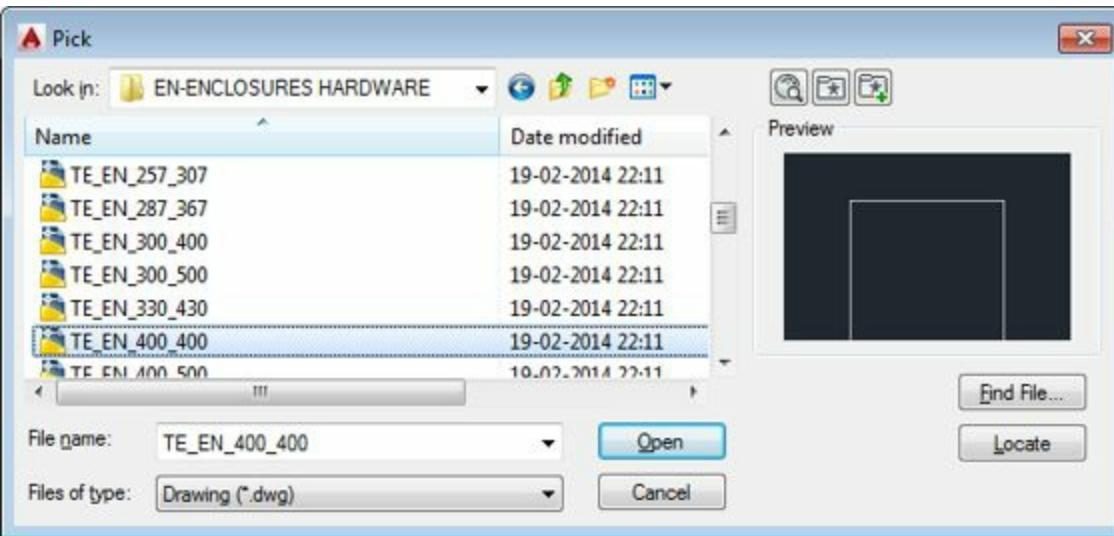

Figure-27. Pick dialog box
- Click on the **Browse** button from the **Footprint** dialog box. The **Pick** dialog box will be displayed; refer to Figure-27.